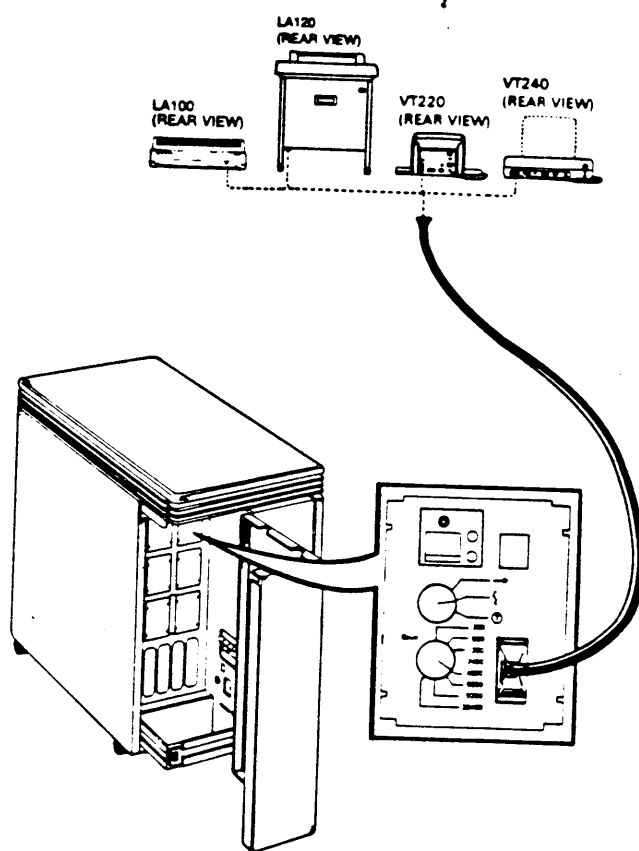

FIGURE 2-11. Connecting the Console terminal to the CPU distribution insert.
Step 8: Connect the console terminal cable to the console terminal and the unit as shown in Figure 2-11.